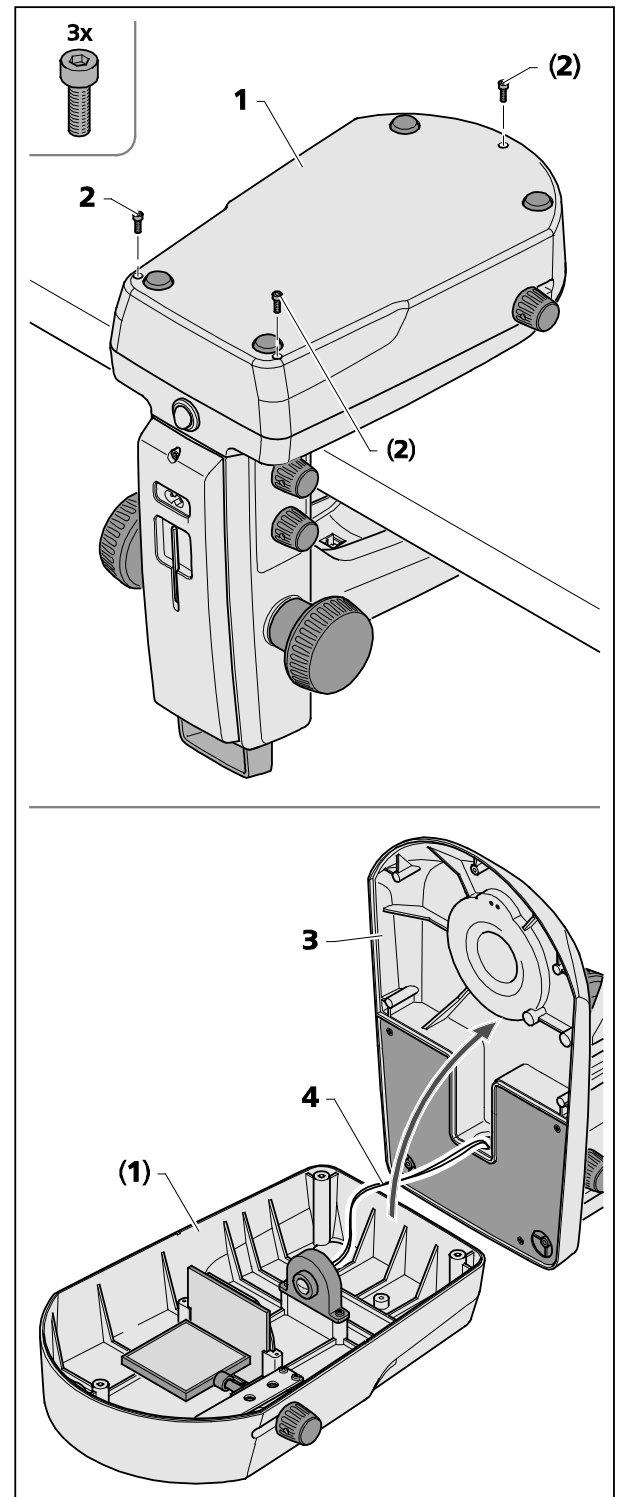

Fig. 29 Opening the stand cover plate, stand K LAB
The transmitted-light base (Fig. 29/1) can be removed from the stand cover plate (Fig. 29/3) for cleaning or for removal of any foreign matter which might have fallen in inadvertently.
- Release the three screws (Fig. 29/2) from the stand cover plate (Fig. 29/1) using an Allen key SW 2.5 and put them aside.
- Carefully lift the stand cover plate (Fig. 29/3) off the transmitted-light base (Fig. 29/1) and put the stand aside.
Make sure that the cable (Fig. 29/4) is not disconnected from the transmitted-light base (Fig. 29/1).
| Fig. 29 | Opening the stand cover plate, stand K LAB.....                       | 37 |